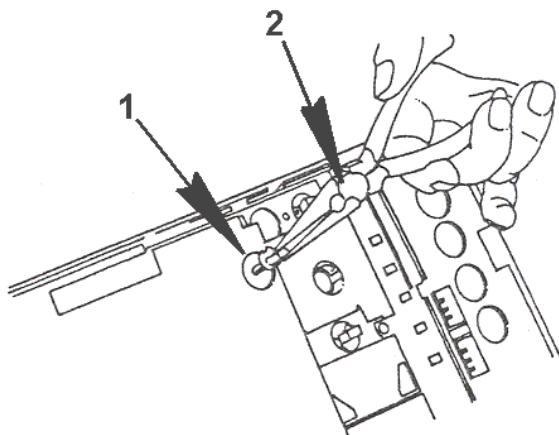

Figure 150 Instrument Panel Light Bulb Remove
- b. To remove bulb, using needle nose pliers pull bulb (Fig. 150, Item 1) and socket end up and out of instrument panel.